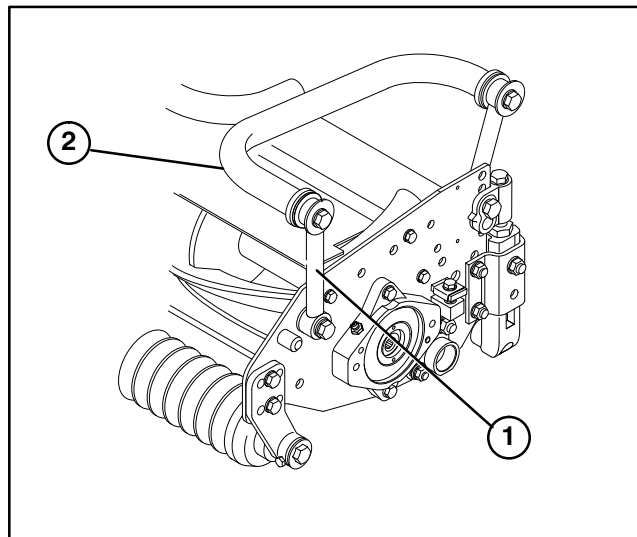

Figure 3
4. Remove (4) bolts and washers securing cutting unit links to cutting unit side plates (Fig. 3). Remove and discard carrier frame and cutting unit links.